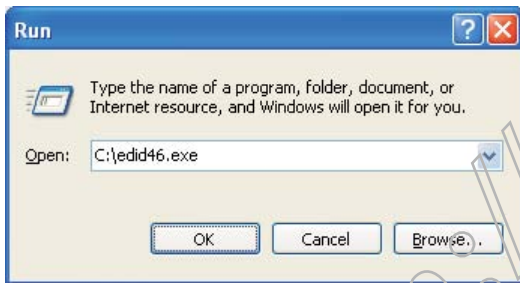

Fig. 5
3. At the submenu, type the letter of your computer's hard disk drive followed by :EDID46 (for example, C:\EDID46, as shown in Fig. 5).